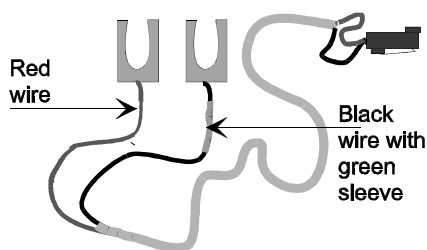

Figure 2-6. DID Power Cord
4. Locate the DID power cord supplied with the TR114 (Figure 2-6).
5. Locate the DID power cord supplied with the TR114 DID board (see Figure 2-6).